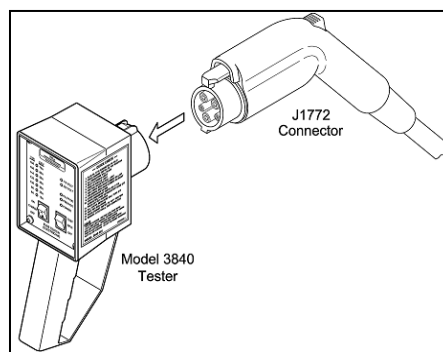

Figure 8
Connect the J1772 Connector to the tester (**Figure 8**)
**NO** - If it is not lit or is flashing, check to see that the proximity latch in the J1772 connector is seated properly on the tester receptacle (**Figure 8**). The resistance between Pin 5 and ground Pin 3 should be 150 ohms and change